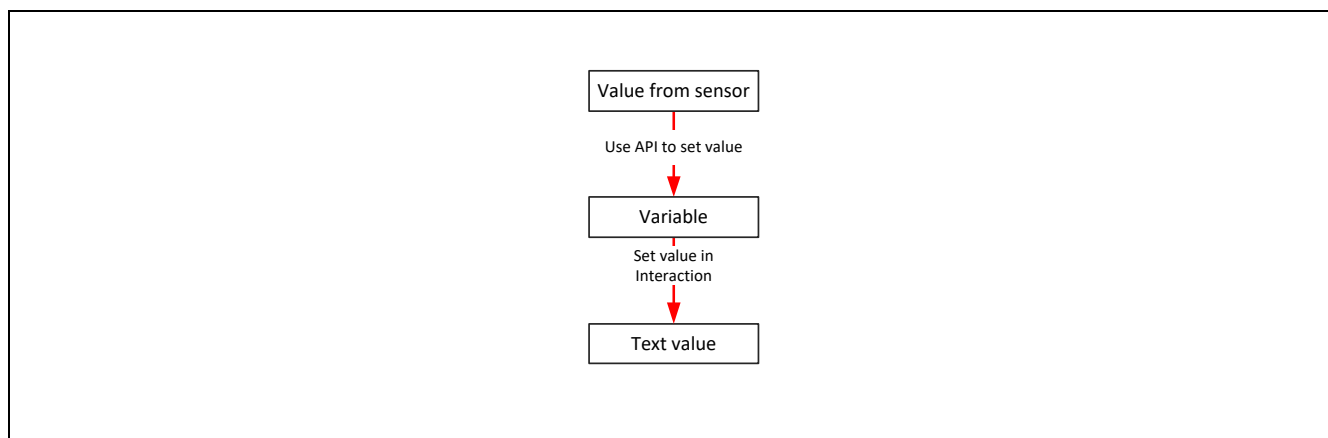
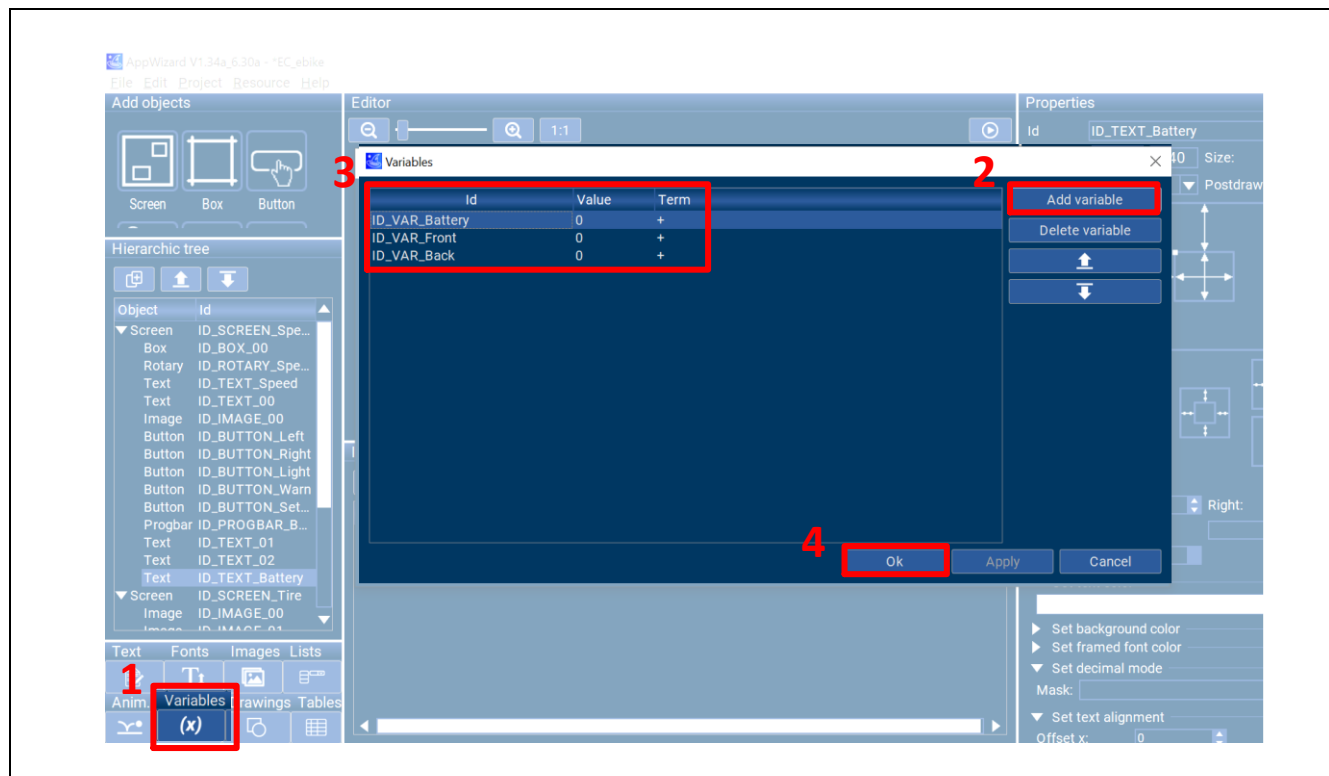
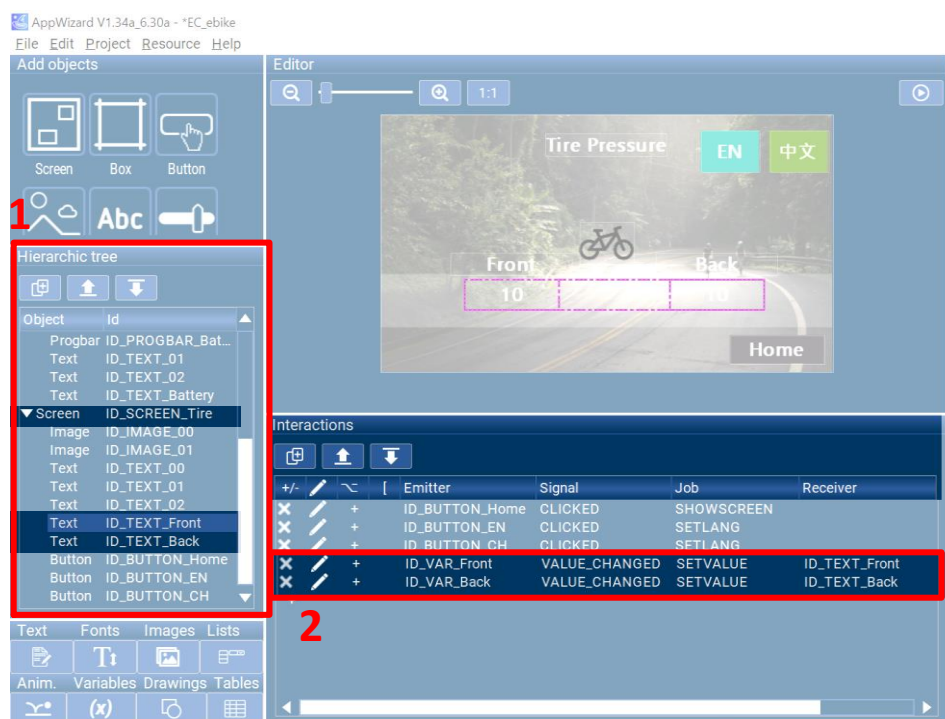

Figure 1-56 Process of Displaying MCU-Calculated Values on the Screen
Figure 1-57 Variable Setting
Figure 1-59 Interaction - Variable
- 3) Use the Variable feature to set the values for battery level and tire pressure after calculating them in the MCU. Assign the calculated values to variables in the code, and then use the Interaction feature to assign the variable values to the respective Text objects for display. The process is illustrated in Figure 1-56, and the actual steps can be followed as shown in Figure 1-57 to Figure 1-59. For the code steps, refer to the code explanation in Chapter 2 Code Description.